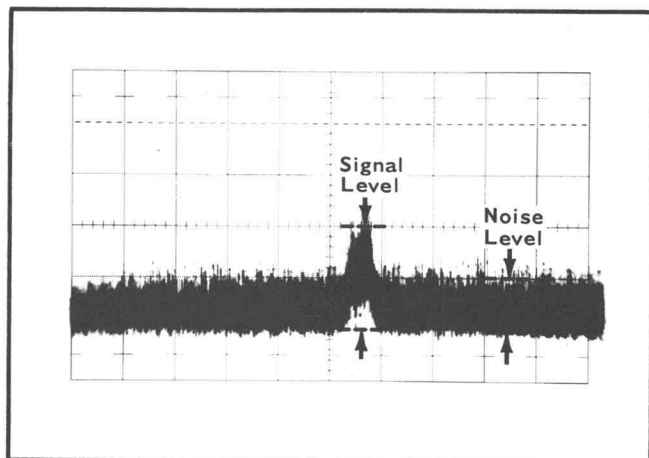

Fig. 6-19. Typical display for checking Sensitivity (Step 12).
- f. Adjust the RF Atten control of the generator so that the displayed signal is twice as high as the noise level (see Fig. 6-19).